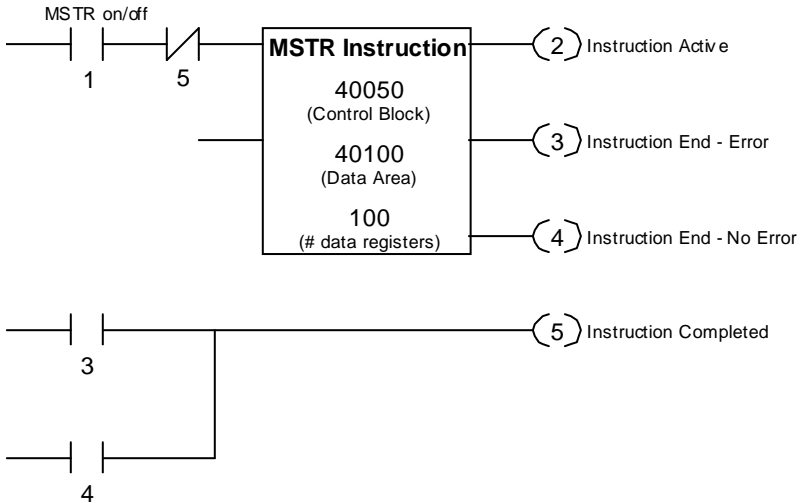

Figure 37: Program Example for Modbus Plus Communications
Modicon PLCs that support Modbus Plus communications implement a special instruction, called MSTR, which allows them to initiate Modbus Plus message transactions via ladder logic. An example of a ladder logic program that implements the MSTR instruction is shown in Figure 37.
1. Set up a ladder logic program as shown in Figure 37. Set the top portion of the MSTR Instruction to 40050. This will be the starting address of the MSTR Control Block. Set the control block registers to the following values:
- Set up a ladder logic program as shown in Figure 37.
1. Set up a ladder logic program as shown in Figure 37.